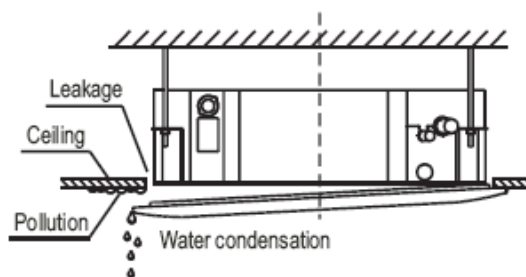

Fig.4-13
- Malfunction described in Fig.4-13 can be caused by inappropriate tightness the screw.